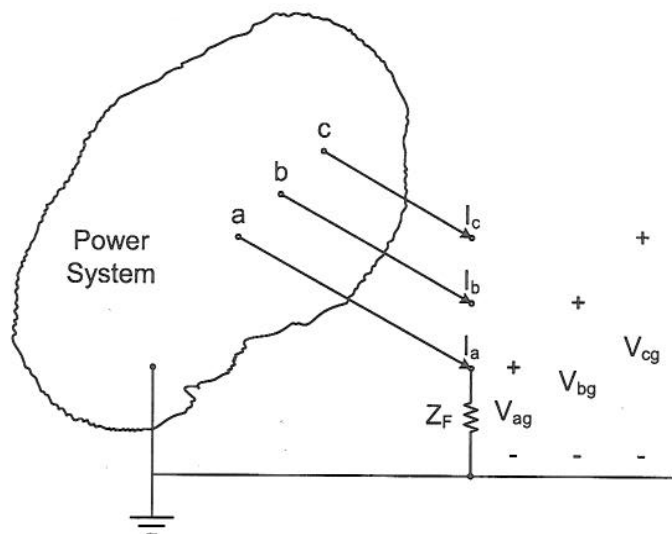

Figure 6.1: Schematic representation of a faulted system
- (c) Figure 6.1 shows a schematic representation of a faulted power system. A single line to ground fault through a fault impedance of Z_F occurs at *phase 'a'*. Apply the method of *symmetrical components* to show that the three sequence networks need to be connected in series at the fault point to compute the fault current. [6]